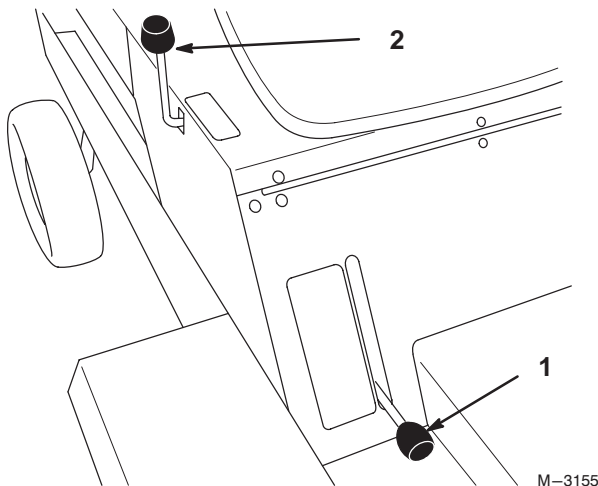

Figure 8
2. Lift the parking brake lever up to apply the parking brake (Fig. 8).
Move the parking brake lever down to the released the parking brake (Fig. 8).
The implement lift lever (Fig. 8) is used to raise and lower various attachments.
2. Pull implement lift lever (Fig. 8) rearward to raise attachment to the desired height.
2. Push implement lift lever (Fig. 8) forward to lower attachment.